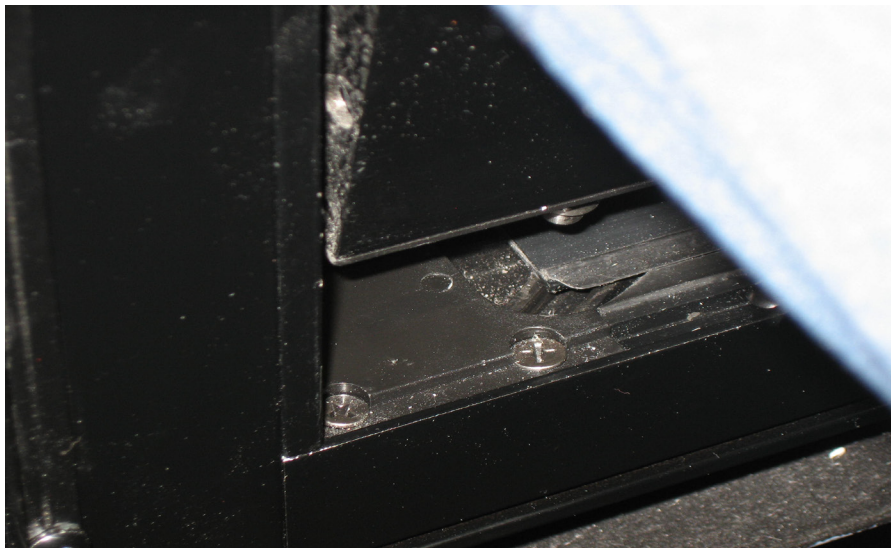

FIGURE 65: POSITIONING THE LOWER LEFT CORNER OF THE SASH
2. Position the left hand lower corner of the sash over the front cam follower block (Figure 65)